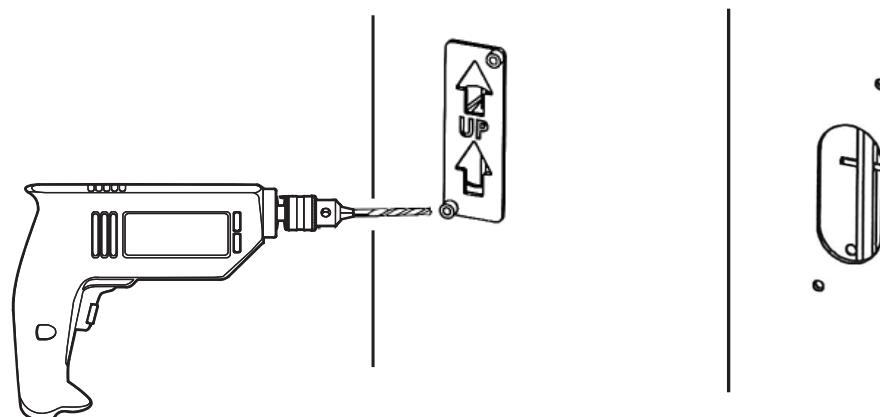

Figure 28
- Using a #7 drill bit, drill two (2) holes completely through the door, making sure the drill remains square to the face of the door. (Figure 28)